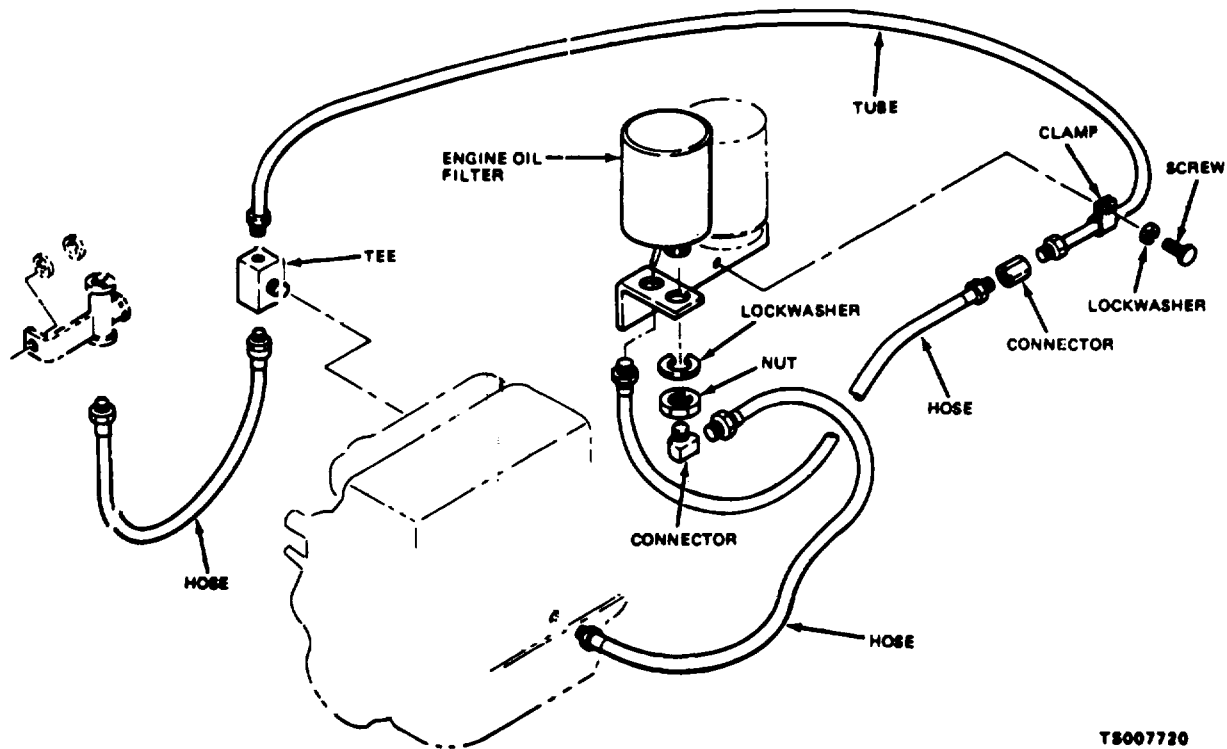

Figure 4-47. Engine Oil Filter, Removal and Installation
(1) Remove the oil filter and associated parts as shown in figure 4-47.
(2) Flush the hoses with a cleaning solvent which will not attack rubber. Clean all remaining parts with dry cleaning solvent P-D-680.
(1) Install the oil filter and related parts as shown in figure 4-47. Use a new filter element during reassembly.